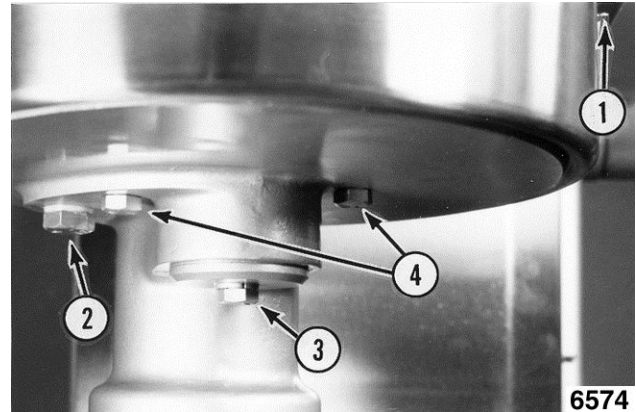

Fig. 24
2. Remove agitator, bowl and BOWL GUARD or drip cup if no bowl guard has been installed [1] Fig. 24.
3. Drain planetary oil by removing drain plug [2] Fig. 24.
4. Remove retaining screw [3] Fig. 24.
NOTE: Should removal of planetary prove to be difficult, tapped holes [4] Fig. 24 (qty. 2) are provided on opposite sides of planetary center for use in anchoring a puller. Remove cap screws to gain access to the holes. Apply sealant to threads of cap screws